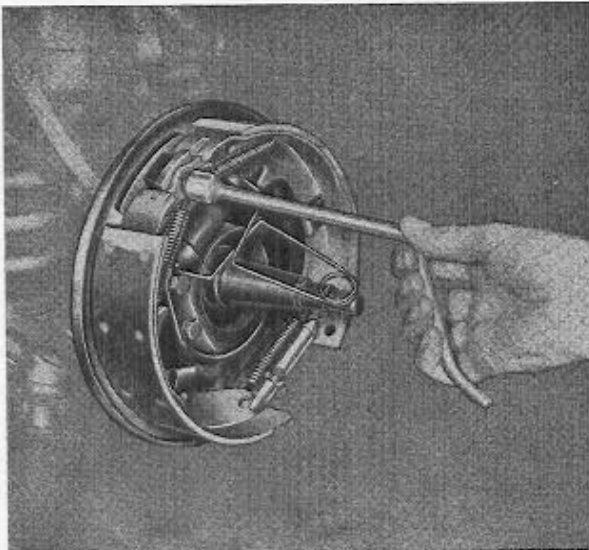

Fig. 29. Removing the return spring with brake spring tool (Snap-on BT 11 or corresponding).
The two return springs are first disconnected with a brake spring tool as shown in Fig. 29, after which the locking clamps are removed and the shoes lifted off together with the adjusting device.
3. Place the clamp SVO 4074 over the wheel unit cylinder so that the plungers cannot be pressed outwards. Disconnect the handbrake cable from the lever. The procedure when removing the shoes depends on which tool is used. With a brake spring tool as shown in Fig. 29, the two return springs are first disconnected, after which the locking clamps are removed and the shoes lifted off together with the adjusting device.